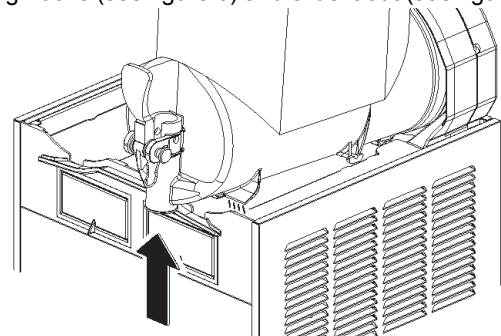
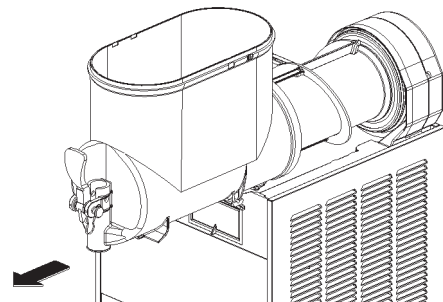

figure 6
figure 7
- 2** Remove the bowl by lifting its faucet side up and off the fastening hooks (see figure 6) and slide it out (see figure 7).